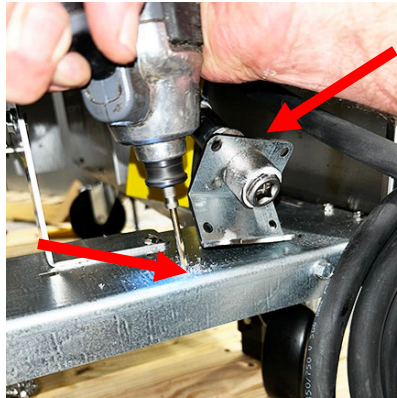

Figure 7
14. Align the waste dispose port on the rear fryer brace, mark and drill two 1/8" pilot holes to attach the rear dispose port (see Figure 7).